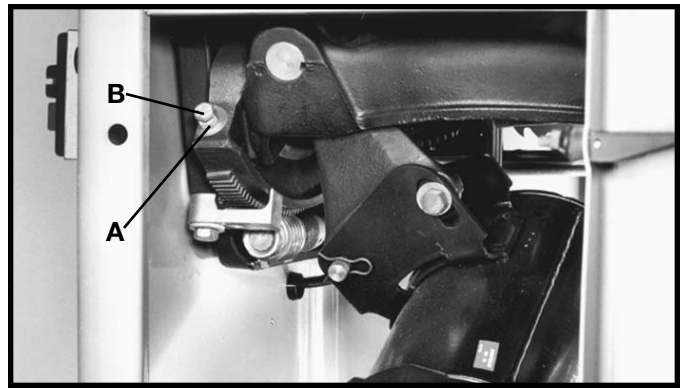

Fig. 109
2. Using a square, check to see if the blade is 90 degrees to the table. If an adjustment is necessary, turn the blade tilting handwheel counterclockwise. Loosen locknut (A) Fig. 109, and tighten or loosen adjusting screw (B) until head of screw (B) contacts casting on front trunnion when the blade is at 90 degrees to the table. Then tighten locknut (A).